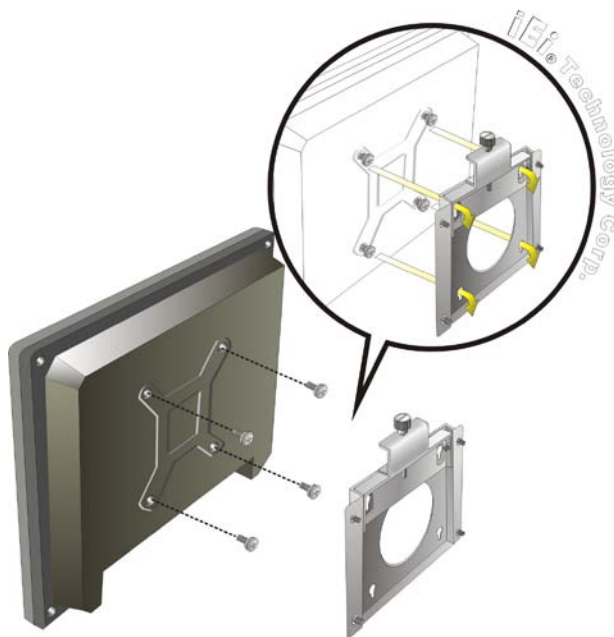

Figure 4-10: Chassis Support Screws
Step 6: Insert the four monitor mounting screws provided in the wall mount kit into the four screw holes on the rear panel of the flat bezel panel PC and tighten until the screw shank is secured against the rear panel (**Figure 4-10**).
- Step 8:** Carefully insert the screws through the holes and gently pull the monitor downwards until the monitor rests securely in the slotted holes (**Figure 4-10**). Ensure that all four of the mounting screws fit snugly into their respective slotted holes.